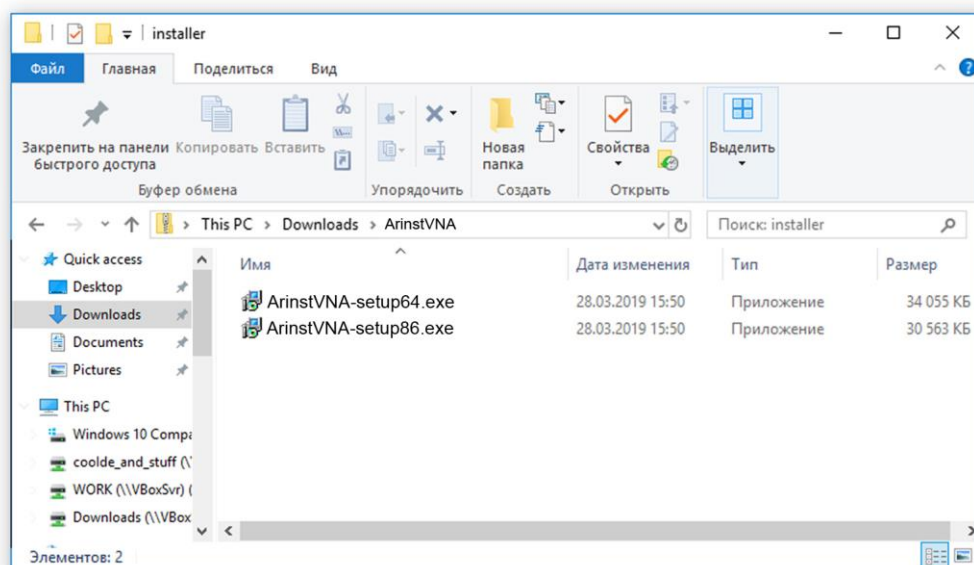

Figure 2.3 - Unzipped downloaded file
2.3. Enter the directory where the archive file was downloaded and unzip it using archiver programs (Figure 2.3).